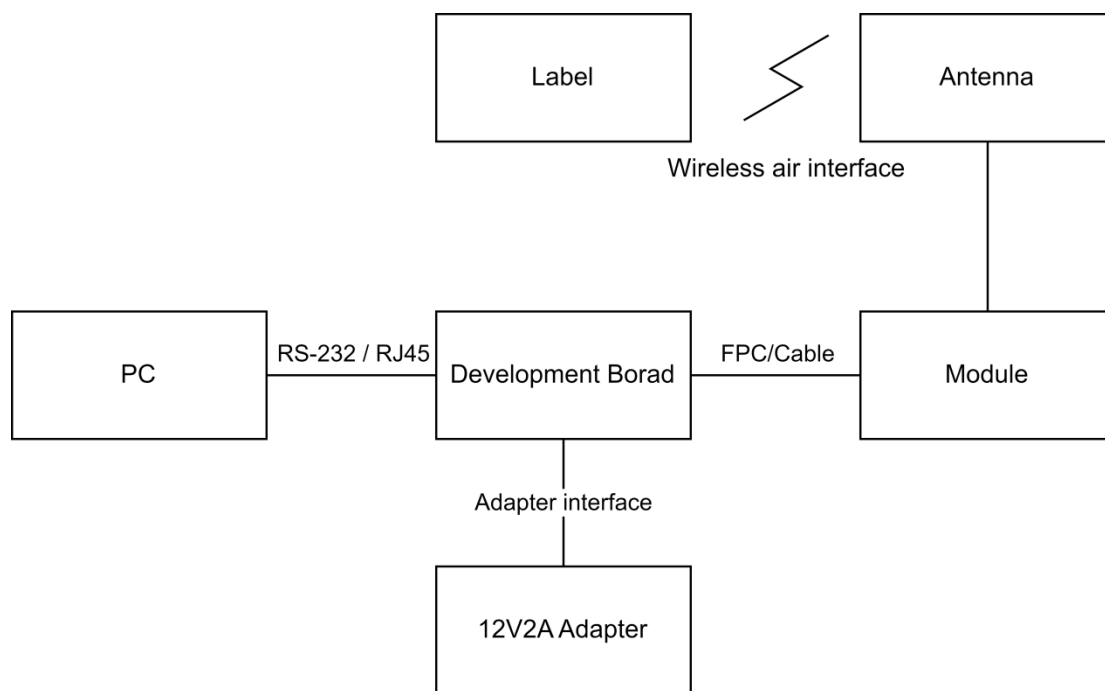

Figure 5.1.1 Module Connection Diagram
The module needs to be connected to the development board via the module connection cable, and the radio frequency (RF) cable must be used to connect the module to the antenna. The development board requires a 12V 2A power supply and must be connected to the host through a standard communication cable (RS232/RJ45) in order to experience RFID functionality. The RFID system hardware list is shown in Table 5.1, and the schematic diagram of the module connection is shown in Figure 5.1.1.